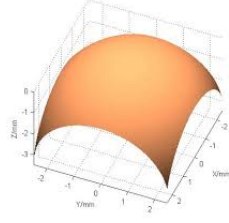

Figure 42: Biconic surface
In the equation (32), the surface is biconic which is graphically shown in the figure 42.